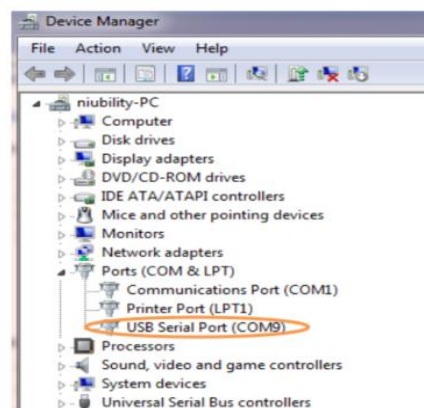

Figure 5-10 Check the assigned Com Port Number On PC
- Open the Device Manager to ensure which common port is assigned to the UART to USB port as shown in **Figure 5-10**.